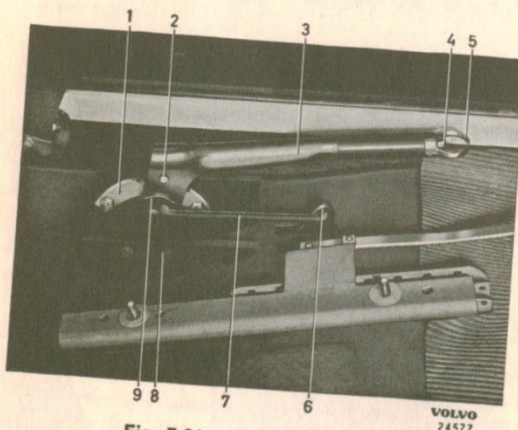

Fig. 7-31. Handbrake lever
2. Remove the split pin and washer at the shaft lever (6, Fig. 7-31). Turn the pull-rod (7) so that it can be removed from the handbrake lever. Remove the ratchet segment (1).
3. Unscrew the bolts for the support attachment (8) and drive out the stud and attachment. Lift off the lever (3).
4. Unscrew the locking screw and remove the yoke (5) and button (4). Take out the spring from the
2. Release the handbrake and disconnect the pull-rod (7, Fig. 7-31) from the shaft lever (6).